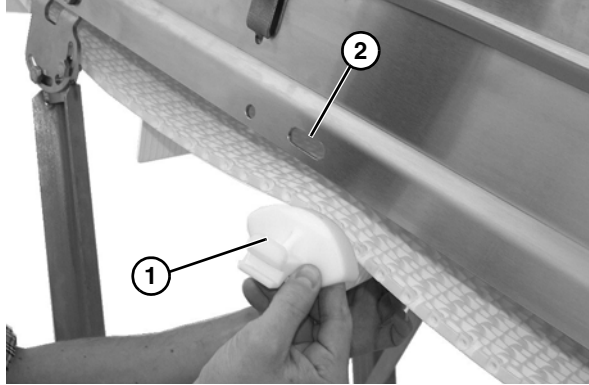

Figure 12
1. Install belt return (**Figure 12, item 1**) into slotted frame hole (**Figure 12, item 2**).